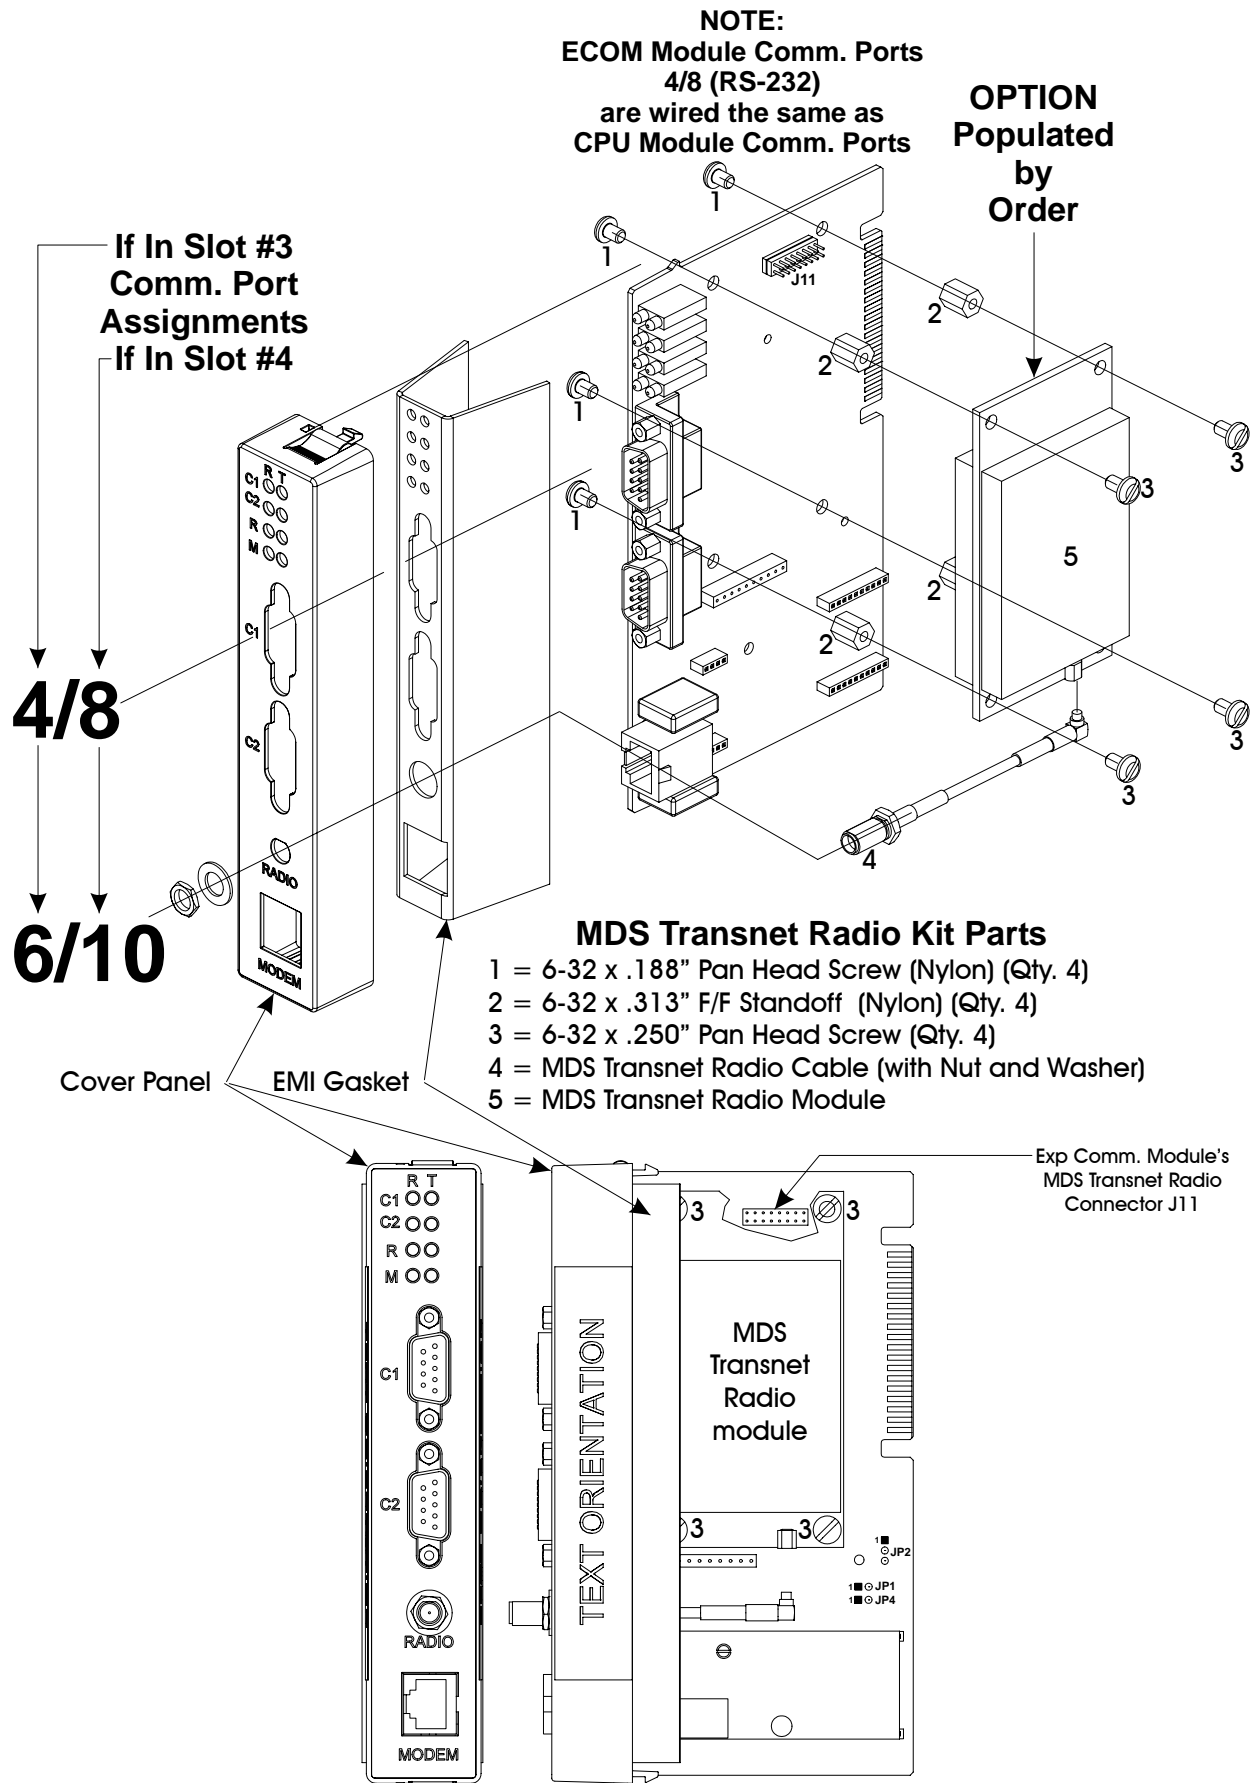

Figure D4 - MDS Transnet OEM Radio Installation Diagram
- 6-32 x .188" Pan Head Screw (Qty. 4) - Fig. D4 Reference = 1
- 6-32 x .313" F/F Standoff (Qty. 4) - Fig. D4 Reference = 2
- 6-32 x .250" Pan Head Screw (Qty. 4) - Fig. D4 Reference = 3
- MDS Transnet Radio Cable (with Nut and Washer- Fig. D4 Reference = 4
2. Unplug the Antenna Cable from the RF Connector on any installed Radio Module. Grasp the Expansion Comm. Module with one hand. Squeeze both sides of the Cover Panel (just below the unit's top) and pull up and away to release the Cover Panel and EMI Gasket from the PCB (see Figure D4). **Note: If necessary, a small screwdriver can be used to pry the Cover Panel from the PCB.**